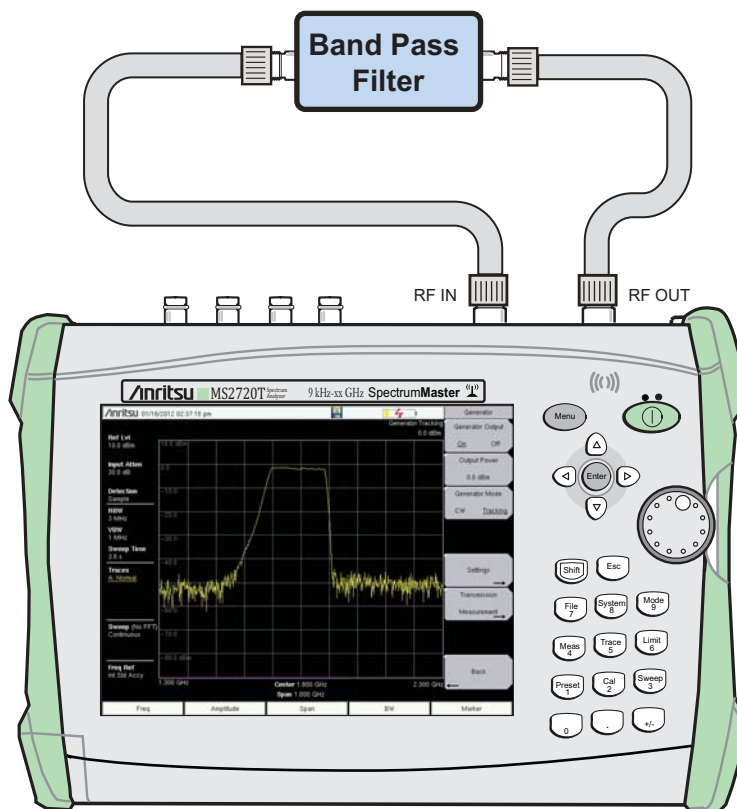

Figure 3-1. Connection of Device Under Test
3. Connect the DUT as shown in Figure 3-1 on page 3-2. For connector torque and connector care information, refer to the User Guide for your instrument.